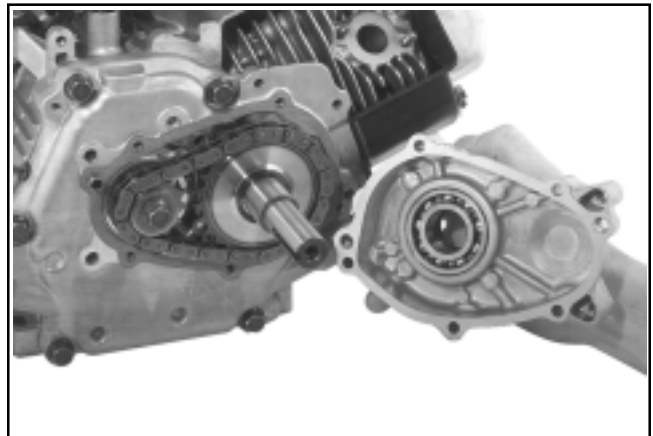

**Figure 9-53. Removing Reduction Housing Screws on CS4, CS6.**
2. Remove the mounting bolts securing the reduction system housing onto the crankcase. Place a flat pan or towel under the housing to catch any remaining oil. See Figures 9-53 and 9-54.